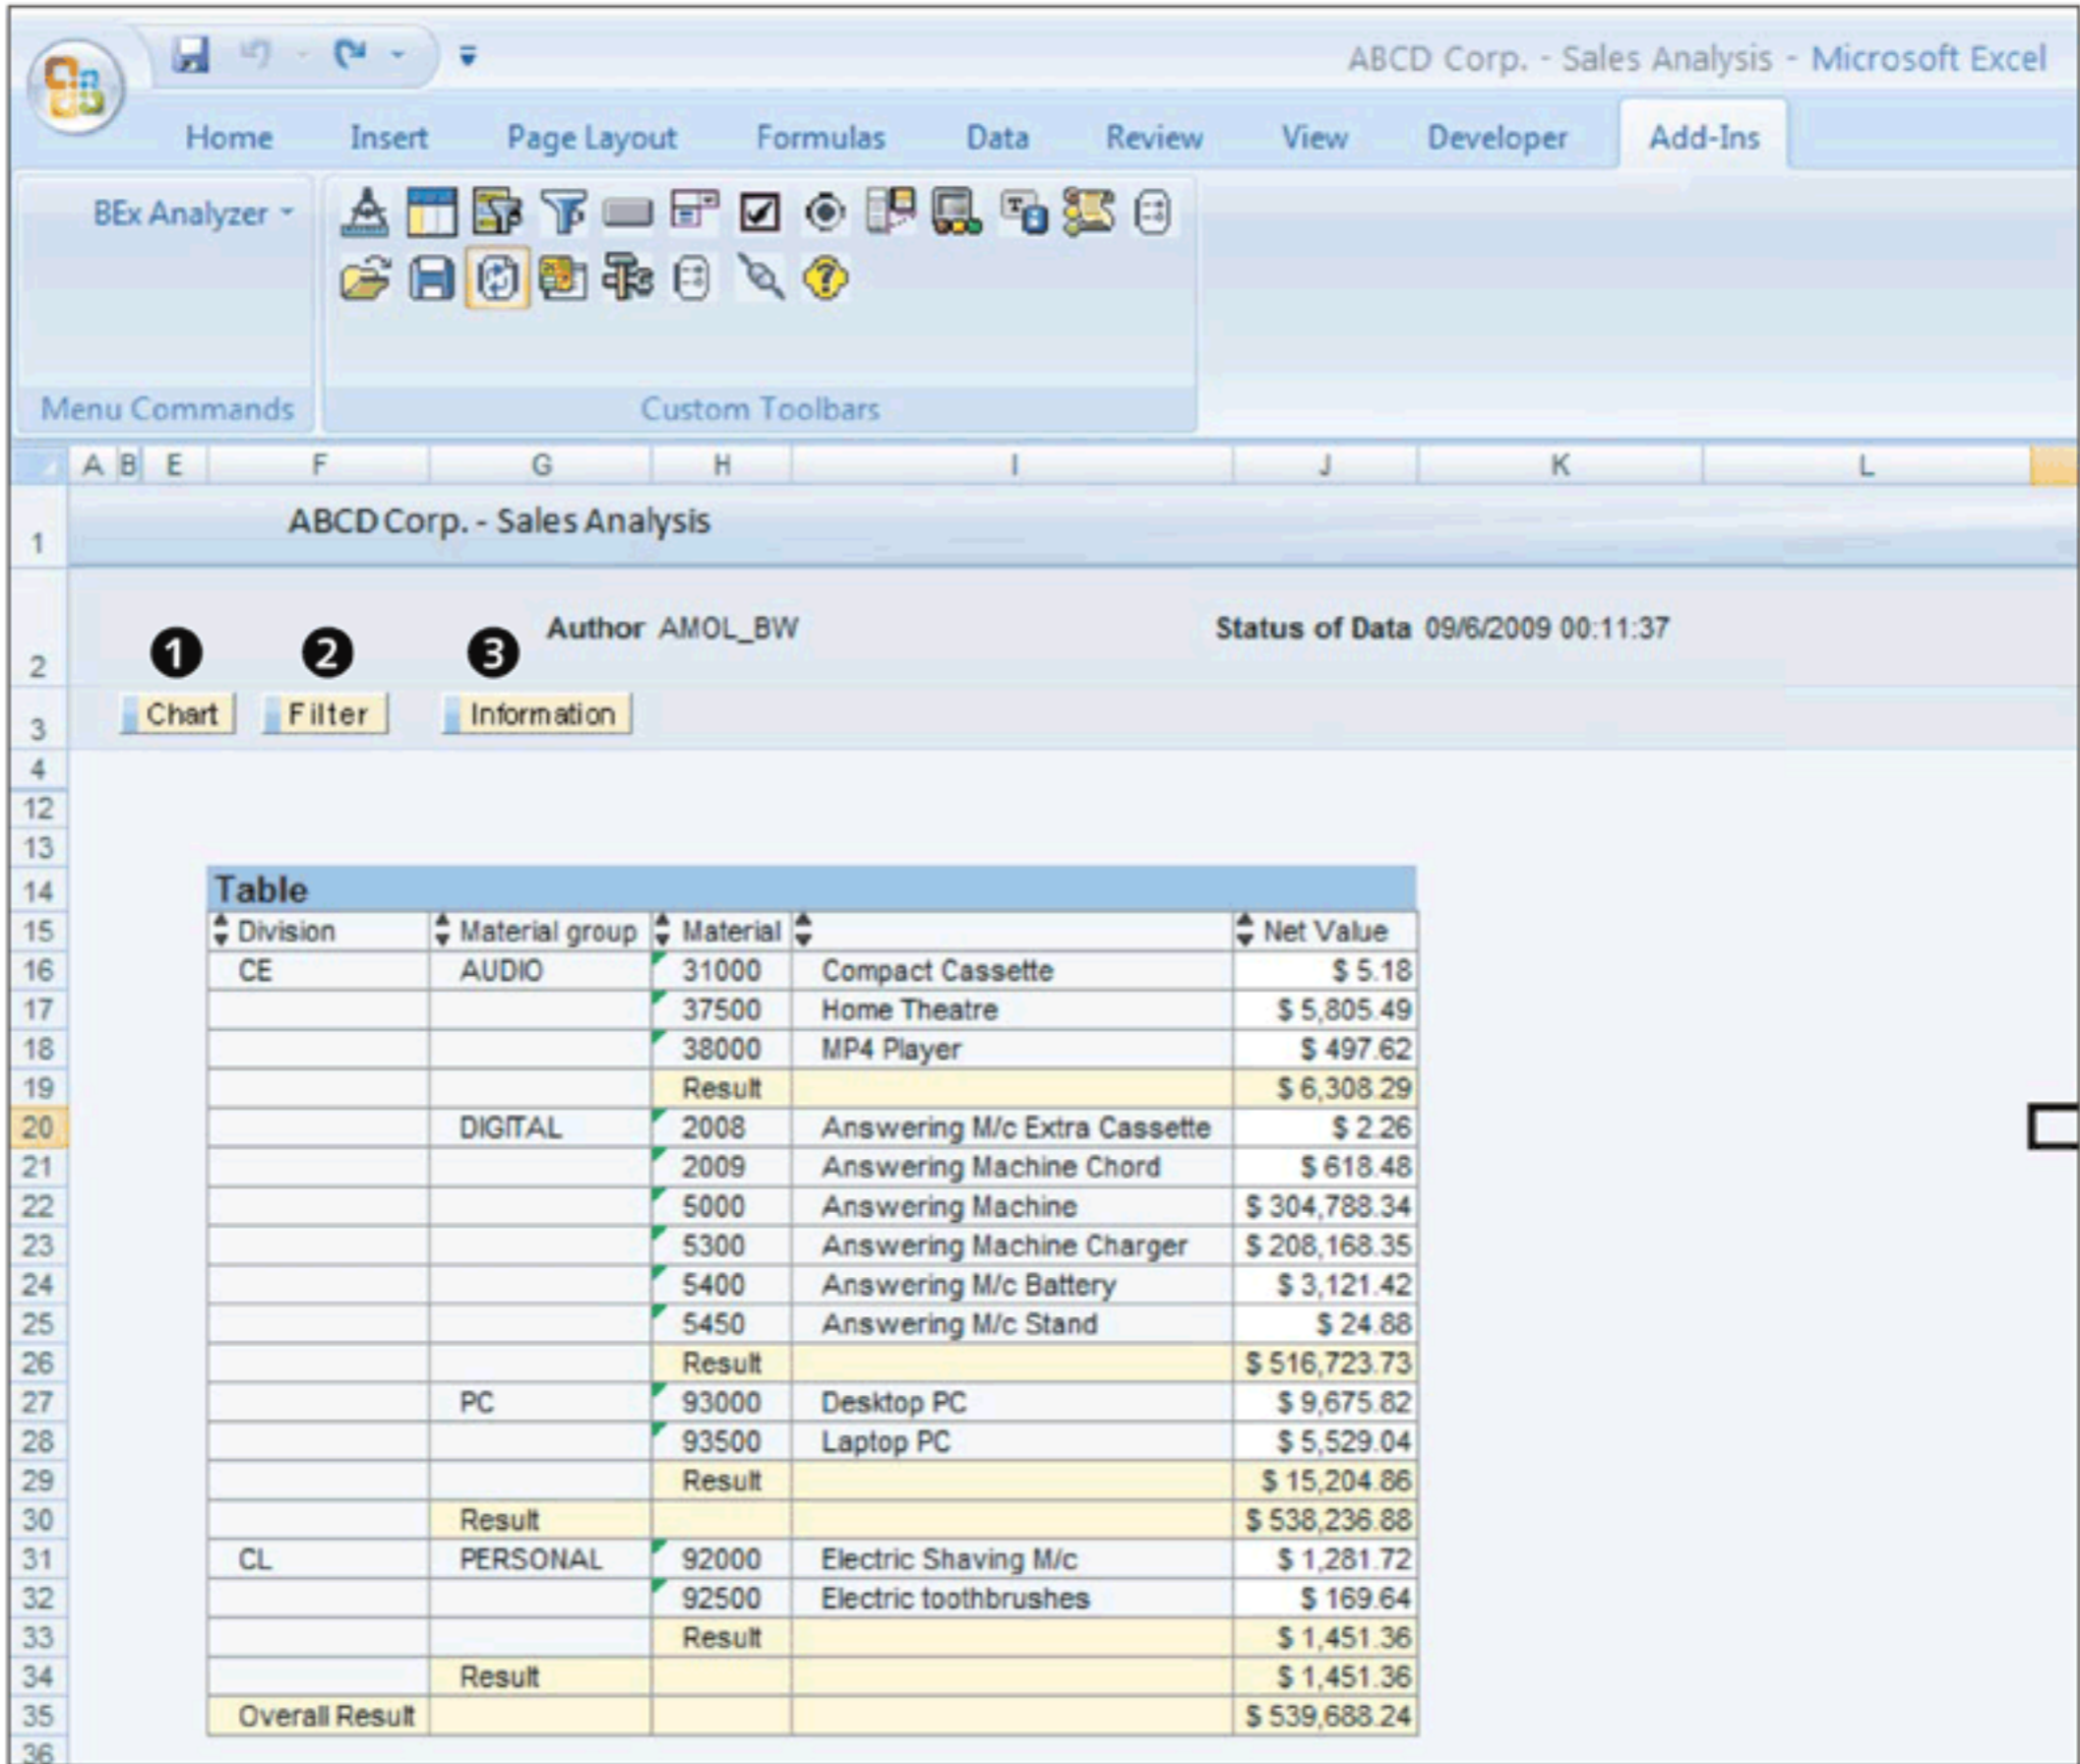

Figure 10.6 Query Result in BEx Analyzer
The query results are displayed in the Excel sheet, as shown in Figure 10.6.
Along with the query result, you can also see the query description, the author of the query, and the status of the data in the InfoProvider. There are three buttons—CHART, FILTER, and INFORMATION—available in the display (❶, ❷, and ❸ of Figure 10.6). Usage of these buttons is explained next.